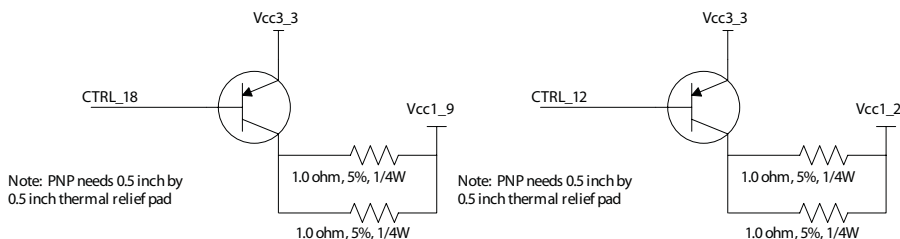
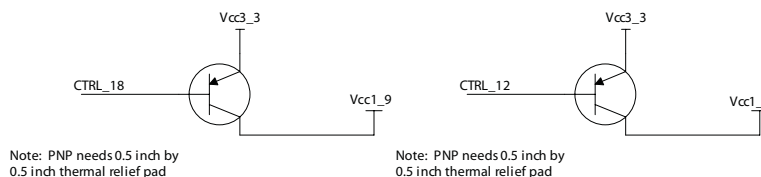

Figure 5. 82563EB 1.9V and 1.2V internal LVR schematic
Figure 6. 82564EB 1.9V and 1.2V internal LVR schematic
- The 82563EB/82564EB analog voltage (1.9V) will never exceed the 3.3V supply at any time during the power up. This is because the 1.9V supply is generated from the 3.3V supply when using the internal voltage regulator control logic (see Figure 5 and Figure 6 for a schematic of the internal LVR circuit). The 1.9V supply will track the 3.3V ramp.
- The 82563EB/82564EB core voltage (1.2V) will never exceed the 3.3V at any time during the power up. This is because the 1.2V supply is generated from the 3.3V supply when using the internal voltage regulator control logic (see Figure 5 and Figure 6 for a schematic of the internal LVR circuit). The 1.2V ramp is delayed internally to prevent it from exceeding the 1.9V and 3.3V supply at any time. The delay is proportional to the slope of the 3.3V ramp.
The effective resistance of the pass resistors should be approximately 0.5 Ω and have a combined power dissipation rating of 0.5 Watts for the 82563EB. Figure 5 shows the recommended implementation.
Note: No resistors are required for the 82564EB as shown in Figure 6 due to the reduction in current demand. See Figure 4.9 for more details regarding power consumption.